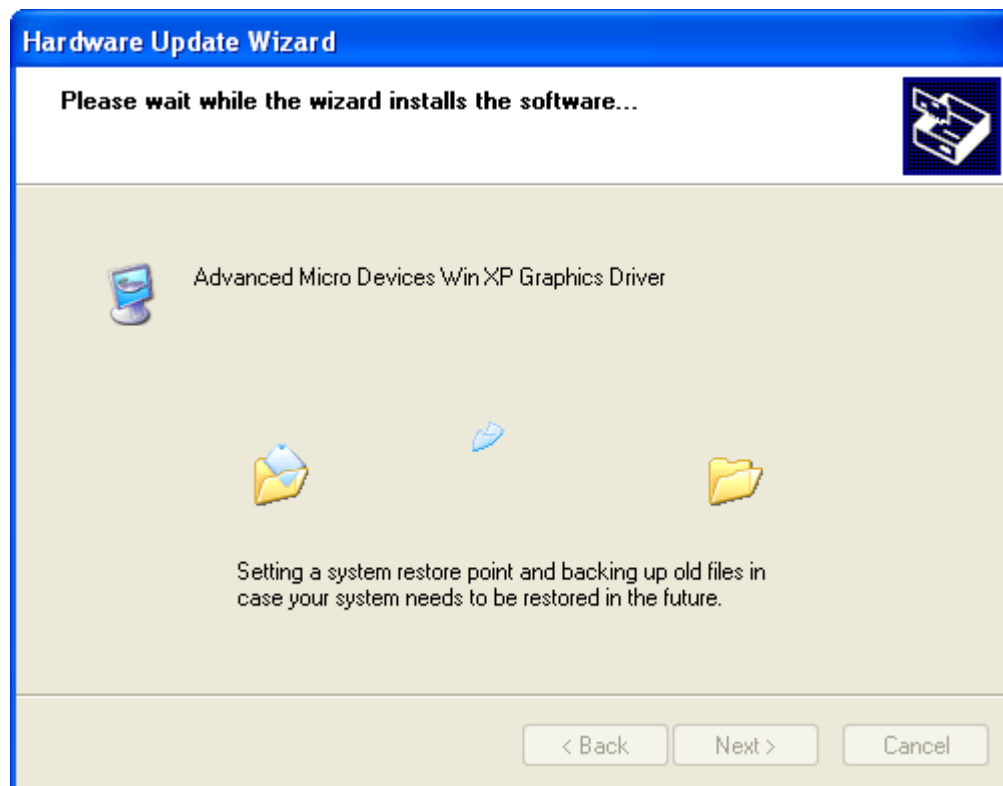

Figure 7-13: VGA Driver Installation
Step 13: The Wizard updates the driver. See **Figure 7-13**.